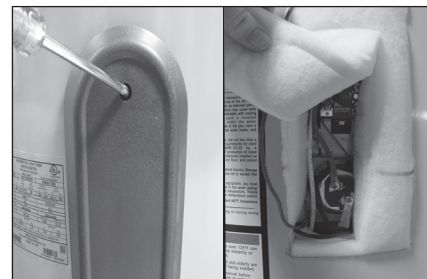

Figure 48 - Element Access Panel/ECO Compartment.
- 3** Remove the upper access panel on the water heater and carefully fold back the insulation and plastic element/ECO cover (Figure 48).